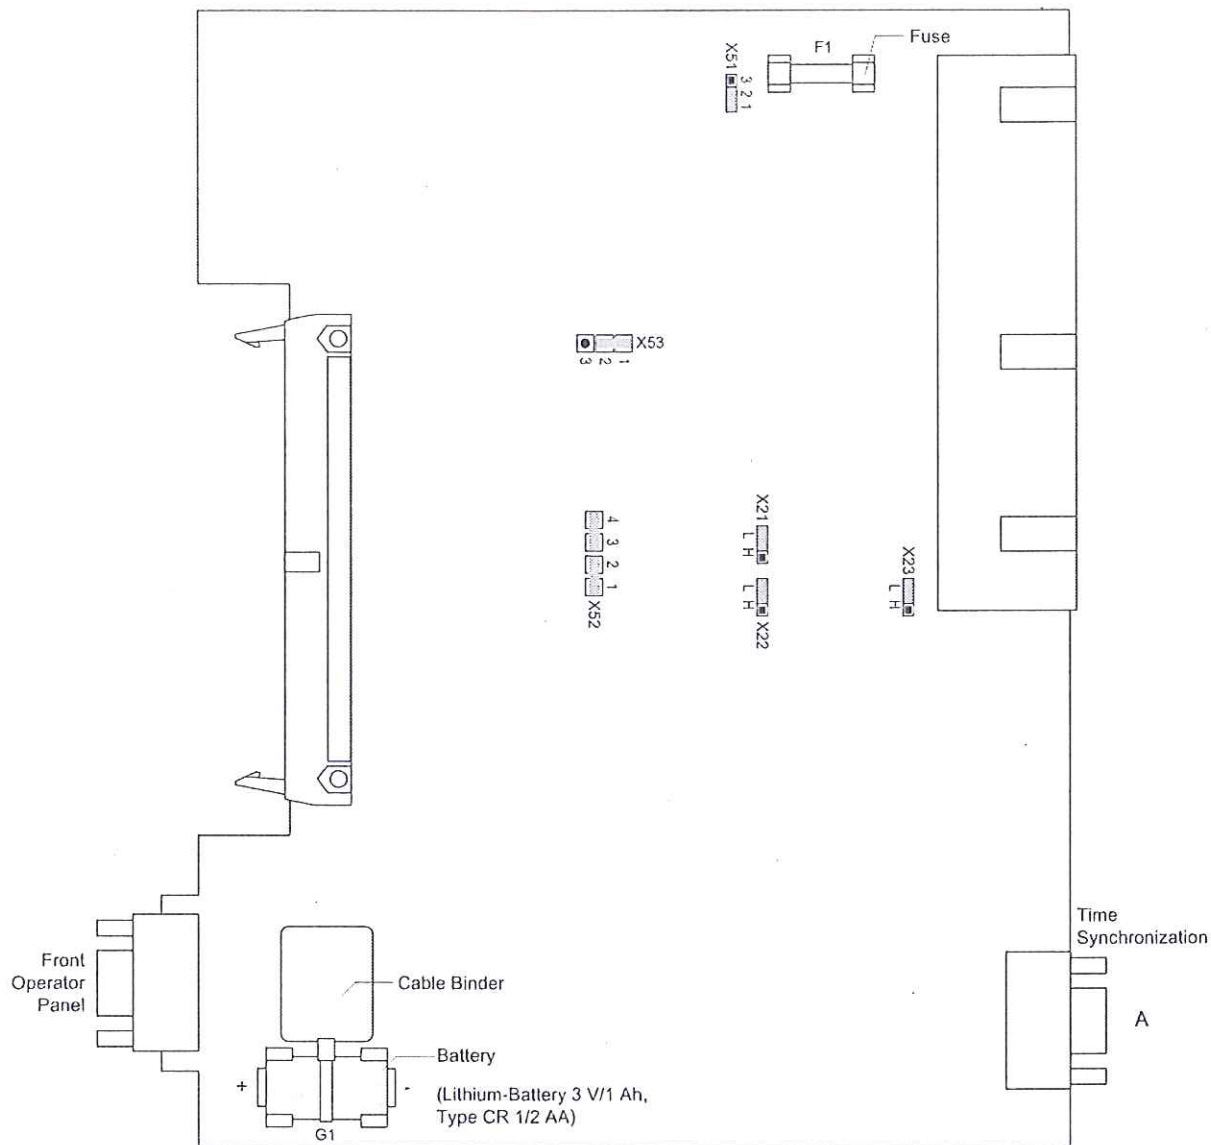

Figure 3-4 Processor printed circuit board A-CPU for devices up to release .../DD with jumpers settings required for the board configuration
- Check the jumpers according to Figures 3-4 to 3-6 and the following information, and as the case may be change or remove them.
The provided nominal voltage of the integrated power supply is checked according to Table 3-2, the selected control voltages of the binary inputs BI1 to BI7 according to Table 3-3. The location and ratings of the miniature fuse (F1) and of the buffer battery (G1) are shown in Figure 3-4.